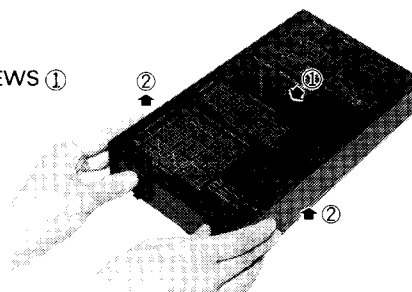

Fig. 2
2. Set the unit upright. The amplifier cabinet can be removed by pulling it slightly toward you until it hits something, and then lifting it upward. (Refer to fig. 2)